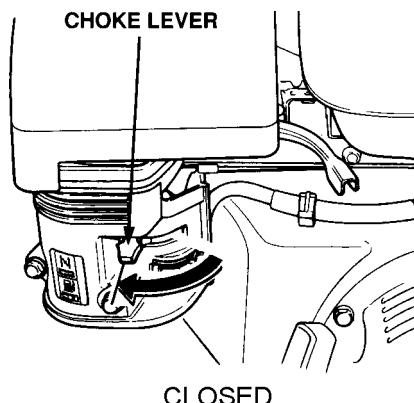

Figure 9. Engine Choke Lever (Closed)
4. Place the **choke lever** (Figure 9) in the "**CLOSED**" position if starting a **warm engine** or the **temperature is warm**.